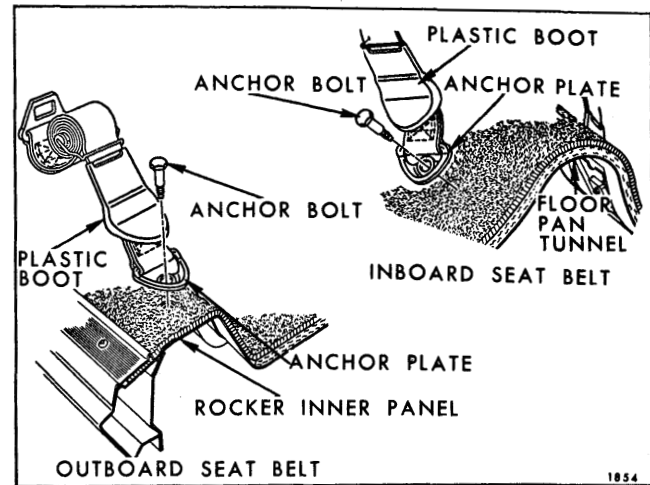

Fig. 10-79—Deluxe Seat Belt Attachments - With Bail Type Retractors
1. Remove bolt on outboard seat belt anchor plate at inner rocker panel and inboard seat belt anchor plate on side of floor pan tunnel by first sliding plastic boot away from plates (See Fig. 10-79).